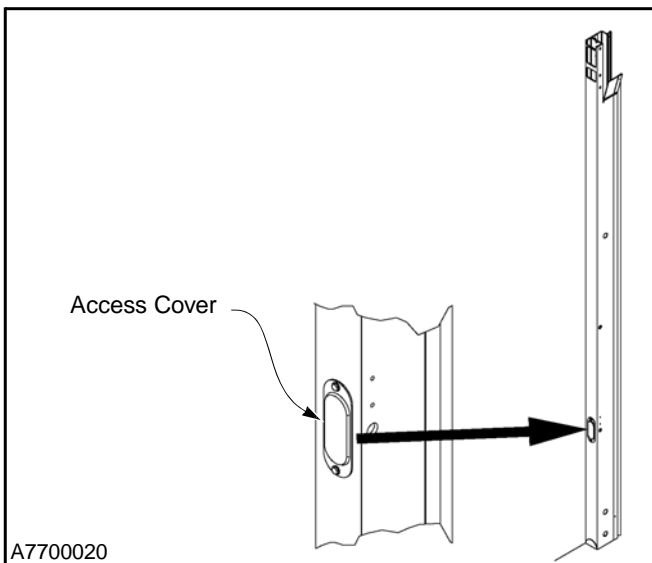

Figure 36
2. Locate and remove the access covers and hole plugs from the side column to gain access to the wires. (See Figure 36.)